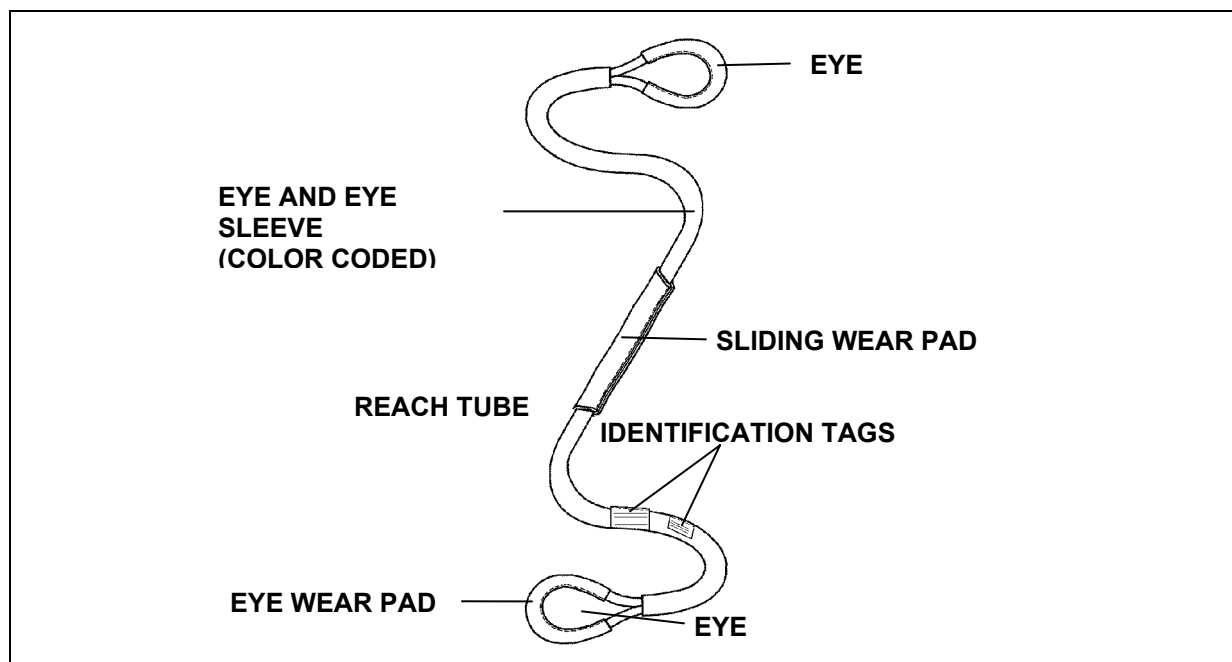

Figure 8-30. Polyester Roundslings
- Polyester Roundslings.** Polyester roundslings are used as the primary vertical pendant (Figure 8-30). Roundslings can be attached to the load using the three hitches described in Chapter 6. The lifting capacity of polyester roundslings vary with the size of the sling and the type of hitch used to attach the load. Each sling has two identification tags permanently sewn to the eye and eye sleeve identifying the size and capacity, as well as other important information necessary for the safe use of roundslings. These slings are also color coded to designate the capacity of the sling. Refer to Table 8-1 for sling lengths and lift capacities.